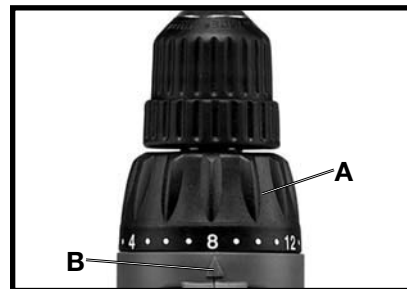

Fig. 3
The clutch unit provides twenty-three clutch settings plus a "Drill" (solid-lockup) setting. Lowest torque is available at setting #1, with maximum torque available at the "Drill" setting. The amount of output torque may be adjusted by rotating the front collar (A) Fig. 3, so that the desired torque setting is aligned with the index mark (B) Fig. 3.